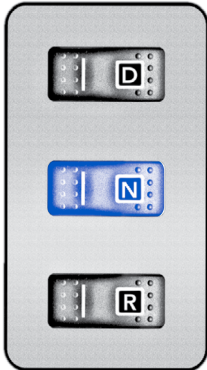

Figure 15 - Gear selector
1. Press on the brake pedal and put the vehicle in neutral by pressing on the **N** rocker switch located on the dashboard (Figure 15).
2. Apply the parking brake by pulling the lever until it reaches its maximum position (Figure 15).